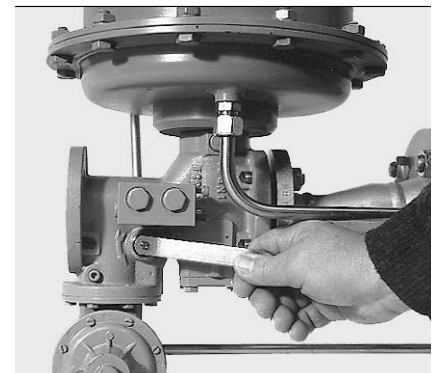

Fig. 6
- Turn reset shaft anticlockwise until the valve disc arm in the release arm engages (Fig. 6).